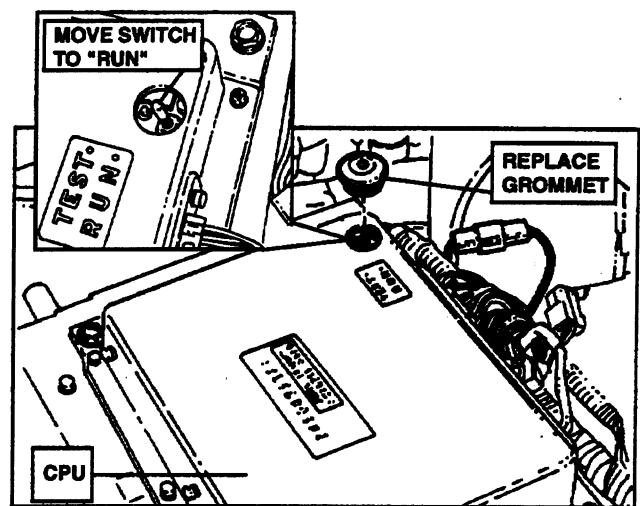

FIGURE 6.23A
11. Move CPU "TEST-RUN" Switch to "RUN" position and replace the grommet. See Figure 6.23A.